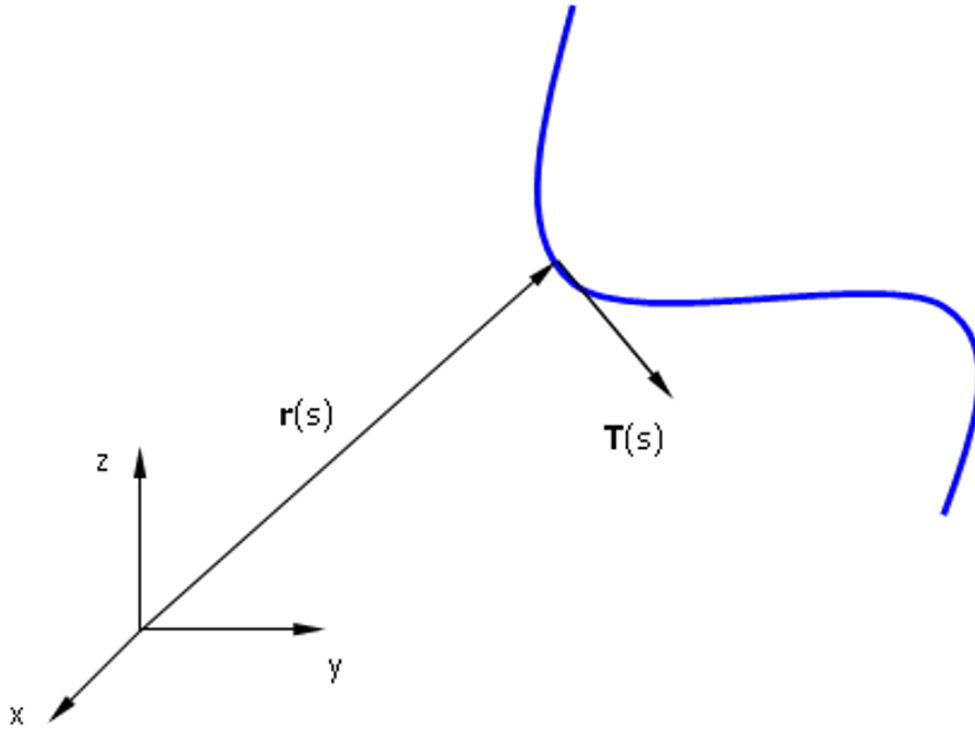

Fig. 1: Parametric description of a curved wire. The tangent unit vector is obtained from the first derivative of the position vector $\mathbf{r}(s)$.
which points from the origin to any point on the wire, Fig. 1. The parameter s varies over a real interval. The tangent unit vector can be obtained from the first derivative of (5):
Thus, the definition of a wire must include its parametric description and its first derivative if an exact representation of the geometry is required, as shown in Fig. 1.